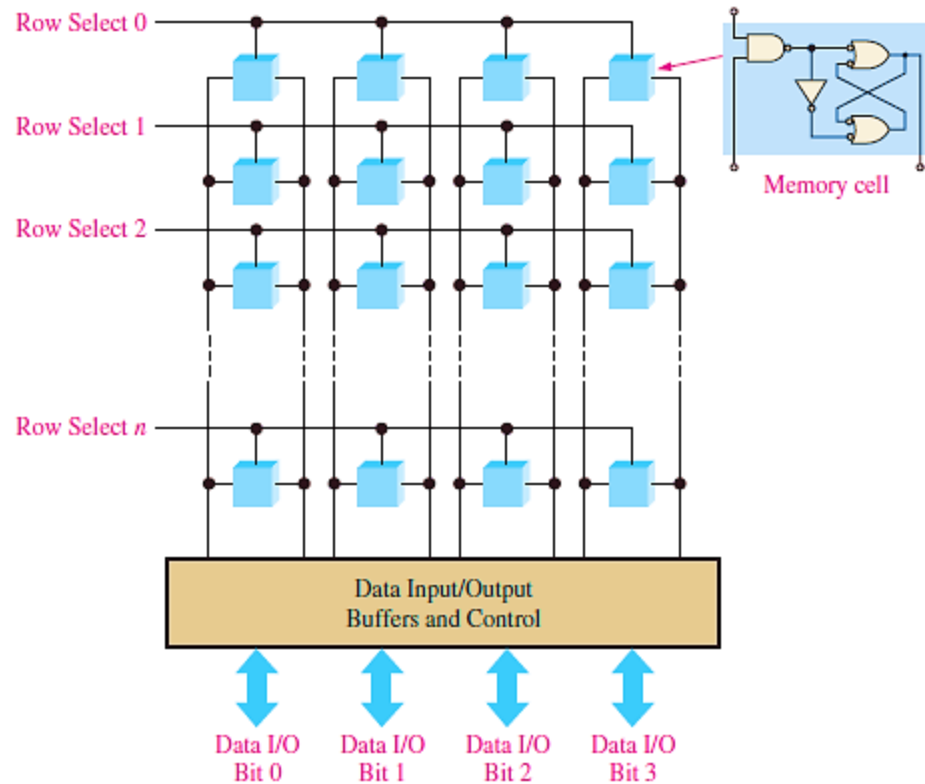

FIGURE 3 Basic SRAM array.
- ❑ The memory cells in a SRAM are organized in rows and columns, as illustrated in Figure 3 for the case of an $n \times 4$ array. All the cells in a row share the same Row Select line. Each set of Data in and Data out lines go to each cell in a given column and are connected to a single data line that serves as both an input and output (Data I/O) through the data input and data output buffers.